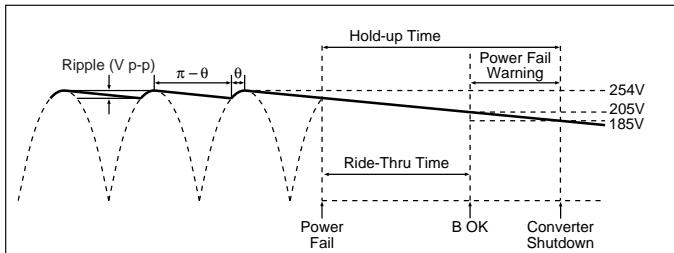
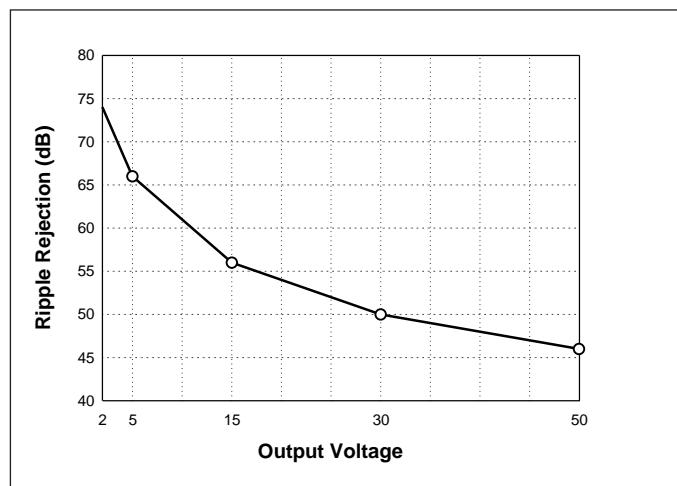

Figure 13—Hold-up time
Figure 17—Converter ripple rejection vs. output voltage
Hold-up capacitor values should be determined according to output bus voltage ripple, power fail hold-up time, and ride-through time (see Figure 13). Many applications require the power supply to maintain output regulation during a momentary power failure of specified duration, i.e., the converters must hold-up or ride through such an event while maintaining undisturbed output voltage regulation. Similarly, many of these same systems require notification of an impending power failure in order to allow time to perform an orderly shutdown.
The power fail warning time (Δt) is defined as the interval between BOK and converter shutdown (EN) as illustrated in Figure 13. The Bus-OK and Enable thresholds are 205 V and 185V, respectively. A simplified relationship between hold-up time, operating power, and bus capacitance is obtained by inserting these constants in equation (3):
For example, a converter whose output is 15V and nominal input is 300V will provide 56 dB ripple rejection, i.e., 10 Vp-p of input ripple will produce 15 mVp-p of output ripple (see Figure 17). Equation 3 is again used to determine the required capacitance. In this case, V_1 and V_2 are the instantaneous values of bus voltage at the peaks and valleys (see Figure 13) of the ripple, respectively. The capacitors must holdup the bus voltage for the time interval (Δt) between peaks of the rectified line as given by:
Determining the Ripple on the Output of the DC-DC Converter. Figure 17 is used to determine the ripple rejection of the DC-DC converter and indicates a ripple rejection of approximately 60 dB for a 12 V output. Since the ripple on the bus voltage is 12 Vac and the ripple rejection of the converter is 60 dB, the output ripple of the converter due to ripple on its input (primarily 120 Hz) will be 12m Vp-p.